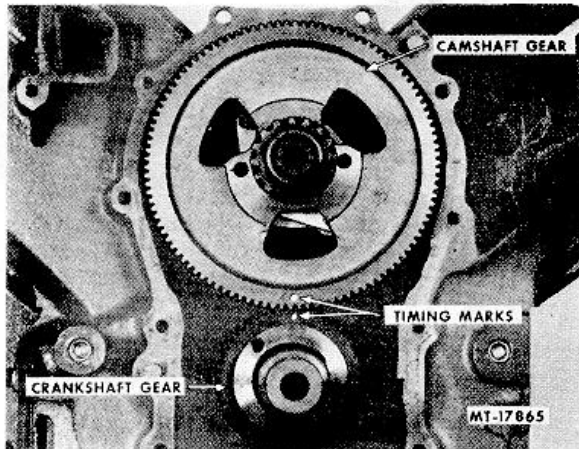

Fig. 114. Aligning Timing Marks on Camshaft and Crankshaft Gears
- d. Align timing marks on camshaft gear and crankshaft gear (Fig. 114) and position camshaft into camshaft bushings. Remove installer tool.